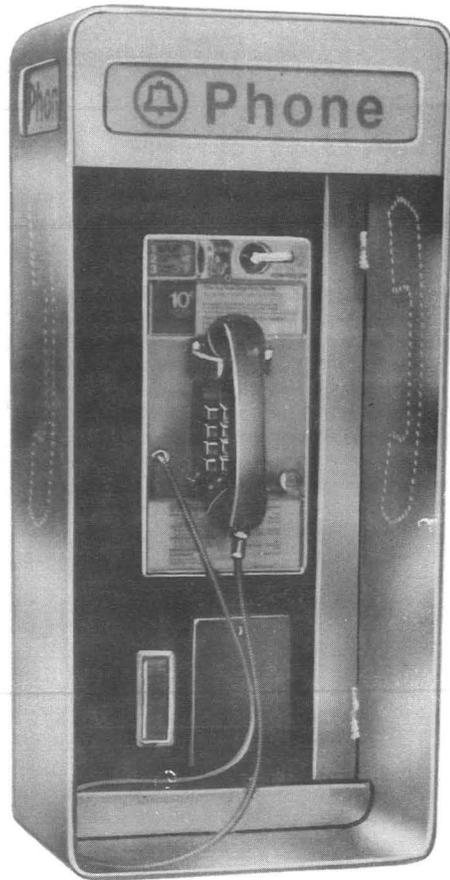
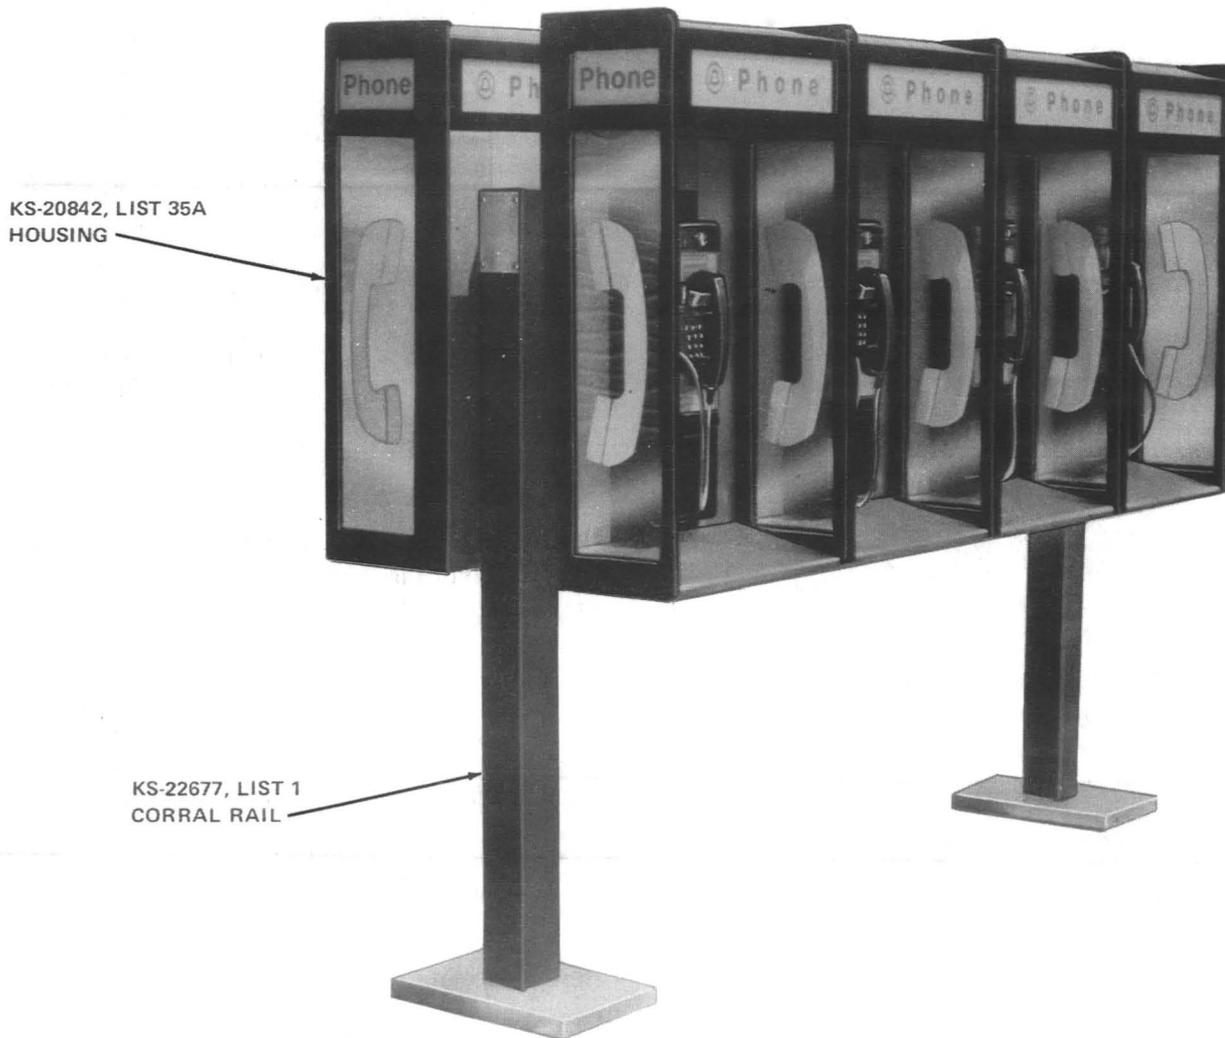

Fig. 3—KS-20842, List 31A Housing
Fig. 4—KS-20842, List 35A Housings Installed on a KS-22677 Corral Rail
2.02 The modified wall mounting will accept KS-20842, List 31 (Fig. 2), KS-20842, List 31A (Fig. 3), or KS-20842, List 35A (Fig. 4) housings.